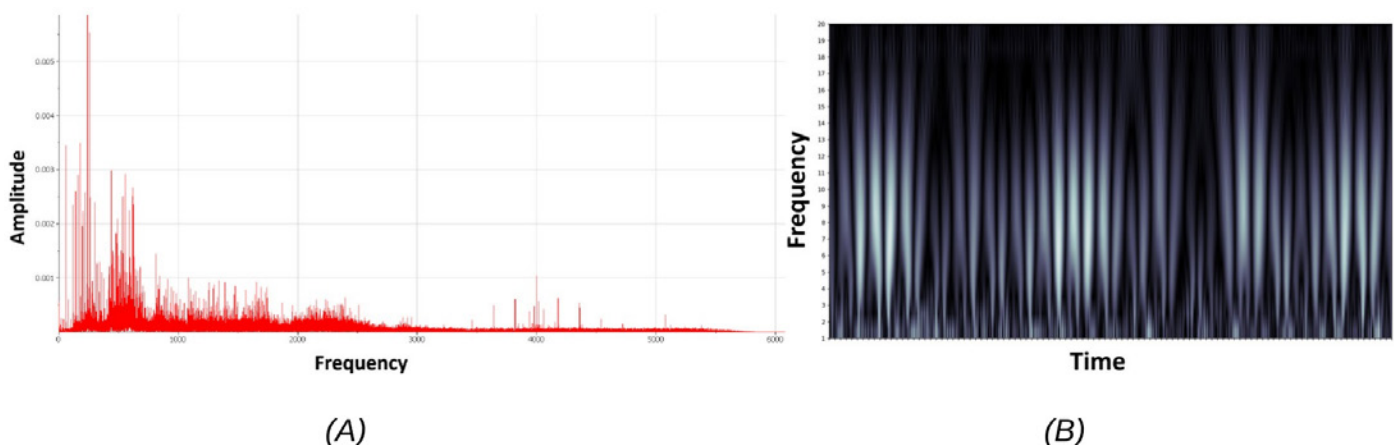

Figure 2—(A) A typical Frequency spectrum obtained from Fast Fourier Transform, (B) A typical Scalogram derived from Continuous Wavelet Transform (WT).
one tries to put time and frequency on one graph, it is well known that Heisenberg's Uncertainty Principle would allow resolution of the signal for one of the components (time or frequency), but not both. To overcome this limitation, various time-frequency analysis methods were developed by sacrificing some resolution in both components. Among those methods are the short-time Fourier transform, Wigner-Ville Distribution, and wavelet transform (WT) (Ref. 3). Typical graphs of FFT and WT are shown in Figure 2 for comparison purposes. Each line in the FFT graph represents a frequency with a certain amplitude, whereas in the WT Scalogram, the brightness of each band signifies the strength of the frequency component in a specific frequency range seen on the Y-axis, at a certain time.